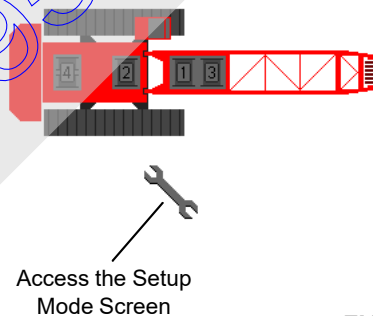

FIGURE 3-6
2. Scroll to and enter the setup mode screen (Figure 3-6).